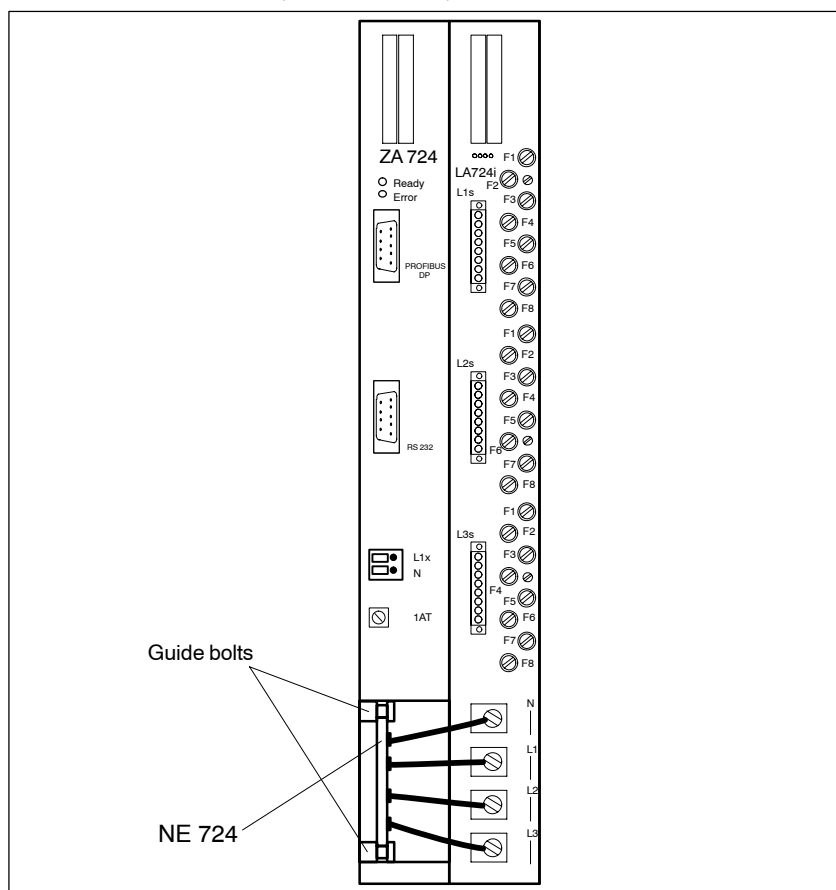

Figure 3-15 Location and connection of the NE 724
Make sure that the PCB is positioned in the grooves of the guide bolts (see figure 3-15).
4. Connect cables of the NE 714 module to the bus bar connections of the adjacent LA 724i xx (see figure 3-15).